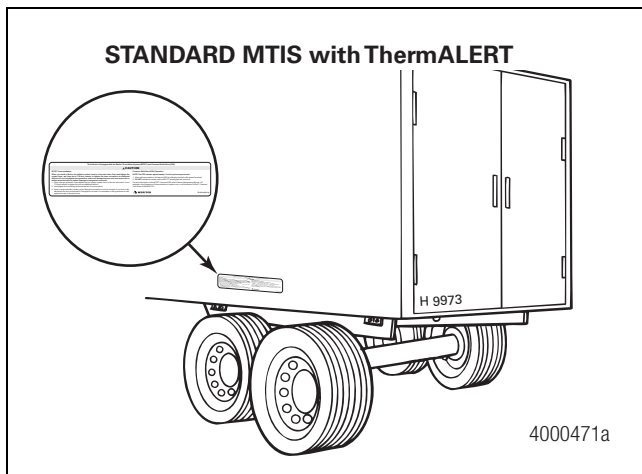

Figure 2.73
1. Install an identification and hose installation decal on each side of the trailer above the suspension. Figure 2.73.